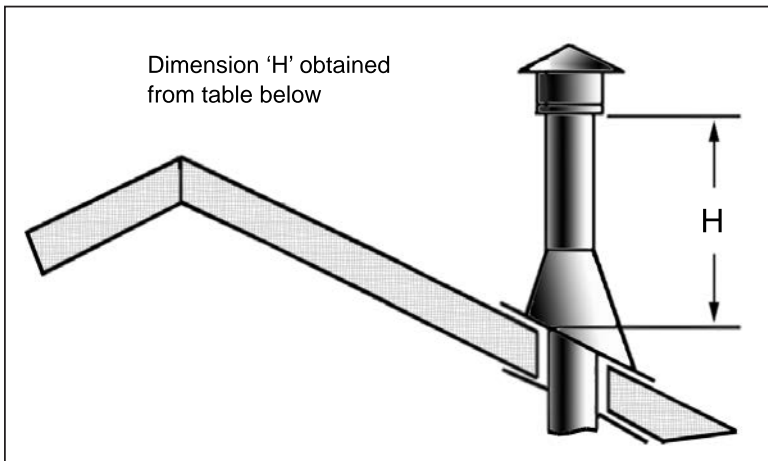

Figure 45: Height of Vertical Termination;
- STEP 8.** Continue to add pipe sections until the height of the vent cap meets the minimum code requirements. Refer to Figure 45 and Table 10. Note that for steep roof pitches, the vent height must be increased. In high wind conditions, nearby trees, adjoining roof lines, steep pitched roofs, and other similar factors can result in poor draft, or down drafting. In these cases, increasing the vent height may solve the problem.
- STEP 9.** Slip the storm collar over the pipe, and push it down to the top of the roof flashing as shown in Figure 45. Use the non-hardening sealant around the joint between the pipe and the storm collar.
Table 10: Minimum 'H' for Figure 45.